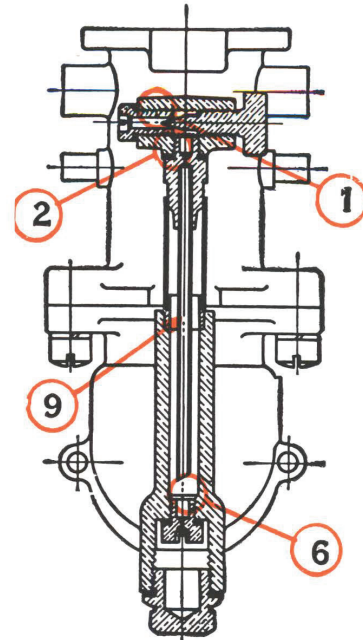

Fig. 5. View showing detail of the idling and starting jet. (See further explanation on pg. 1295 under "Idling and Starting Jet.")
Name of parts: 1, idling jet passage; 2, idling jet; 3, opening to compensating jet; 4, cap jet; 5, air intake; 6, compensator; 7, compensator jet passage; 8, main jet; 9 (see Fig. 5) idling tube; X, venturi or choke tube (note there is only one venturi here, whereas on the model "SV" pages 1297, 1298, there are two venturi, a small and a large one).
This idling jet (2) (Fig. 5) is an auxiliary to the compound nozzle and operates only when the throttle is just cracked open.